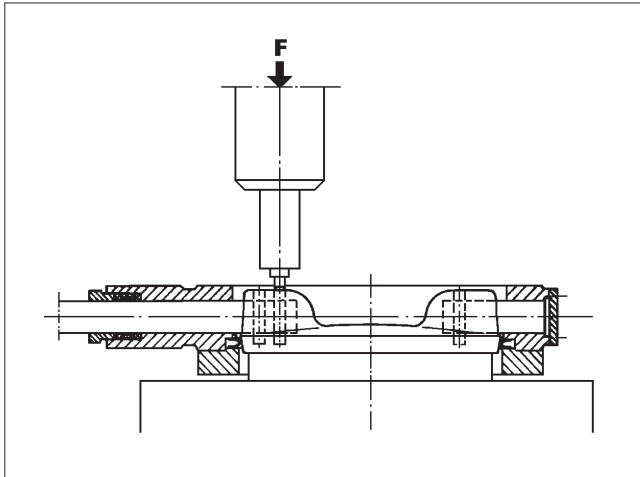

Fig. 18 Pressing the pins
- Support the disc well in a horizontal position during mounting of the pins. Push the new pins into the holes and press them in a press to final form (see Fig. 18). Use a smaller tool than the pin diameter. See Table 7 for forces.